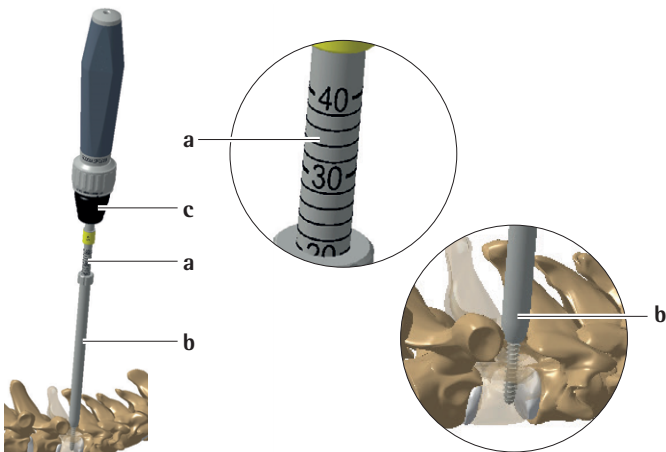

Fig. 16
- ▶ Read the depth from the scale a as the sleeve b retracts during tapping, see Fig. 16.